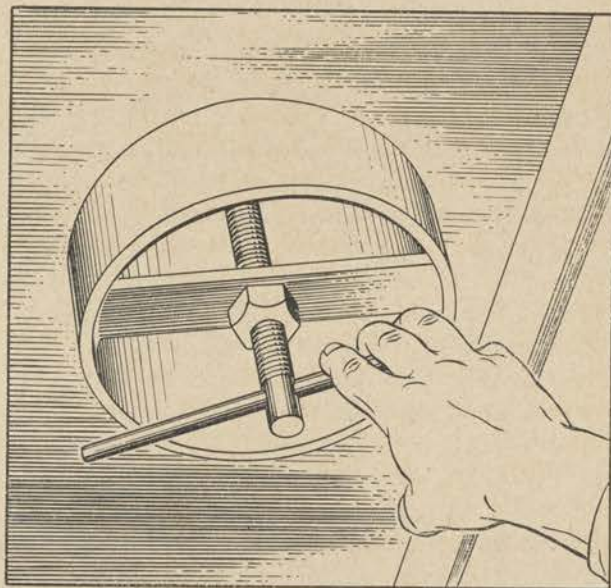

Figure 88. Adjusting deck house air vent.
a. CATERPILLAR DIESEL ENGINE. (1) *General.* When operating in extremely high temperatures, efficient cooling and adequate lubrication are vitally important. Check the cooling system frequently for leaks and to make certain that the circulation is not impaired. Pay special attention to the radiator fan belt for condition and proper adjustment. Replace fan belt if frayed or stretched to the extent that it cannot be adjusted properly. Inspect the air cleaners for both the starting engine carburetor and Diesel engine twice daily, making sure that the cleaners are well supplied with oil. The air vent (fig. 88) should be